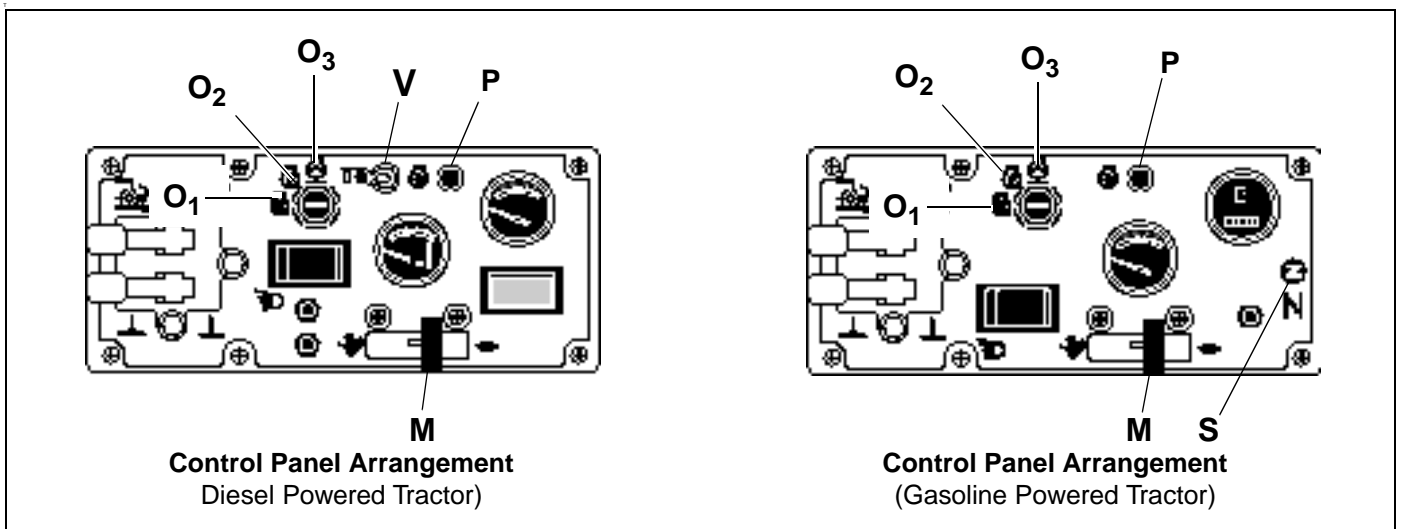

Figure 4A
4.4 TO START ENGINE (Figure 4A)